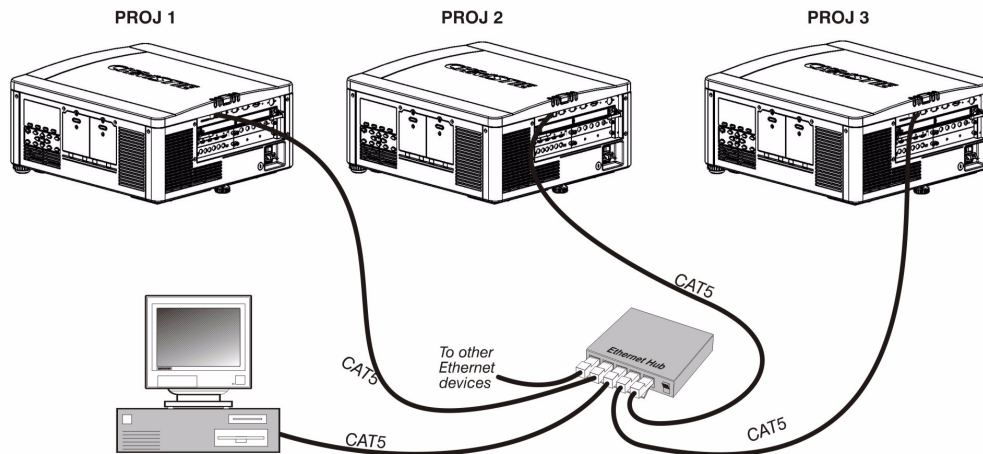

FIGURE 2-22 - ETHERNET NETWORK SETUP
**ETHERNET NETWORK SETUP:** To add one or more projectors to an Ethernet network, use standard CAT5 cable to connect each projector's Ethernet port to a hub belonging to the network. A controller or PC must also be connected to the hub, see Figure 2-22 - Ethernet Network Setup. **NOTE:** A wireless router can be used to communicate to the projectors via 802.11b/g.